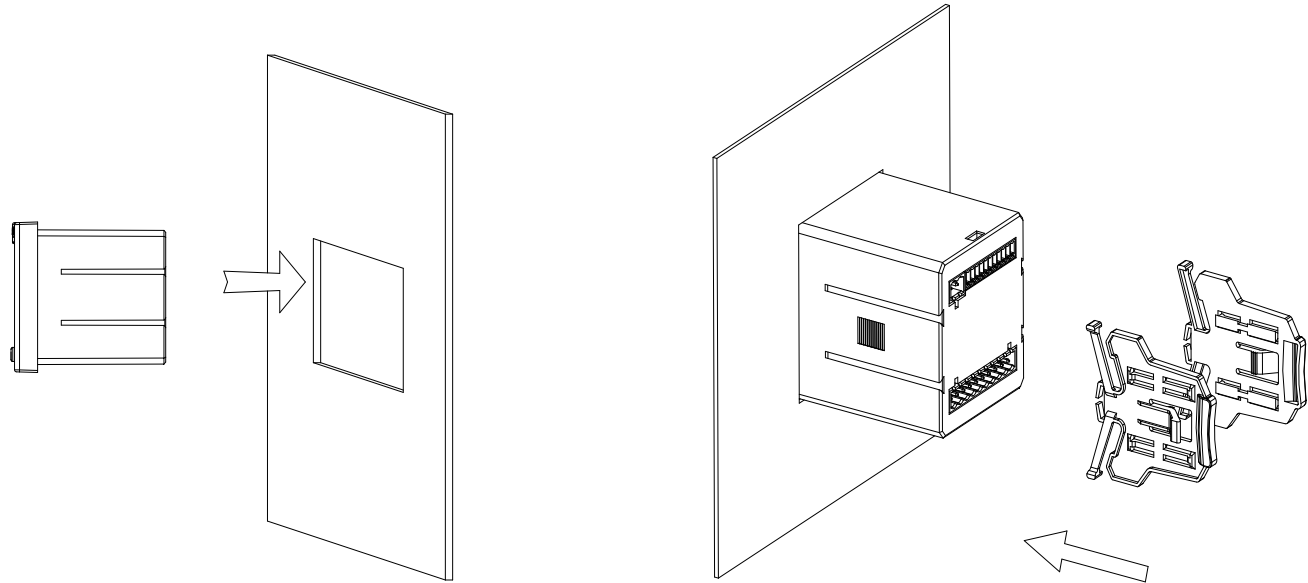

图 4
- 3) The meter is loaded into the mounting hole from the front, as shown in Figure 4;